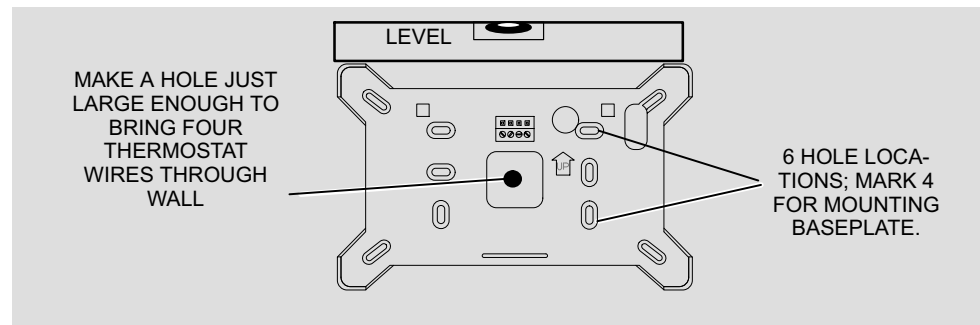

Figure 1. Hole locations
3. Install thermostat using wall mounting instructions (figures 1 through 4).
- A. Use a level to align the thermostat baseplate against the wall where the thermostat will be installed (see figure 1). Mark an appropriate hole location on the wall for routing the wires and mark (4) mounting holes at the same time.